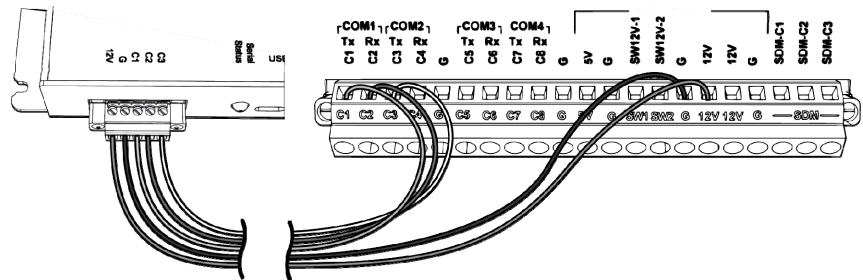

FIGURE 6-9. Datalogger to SC-CPI connection
- a. Connect the SC-CPI to the datalogger. Reference FIGURE 6-9, *Datalogger to SC-CPI Connection*.